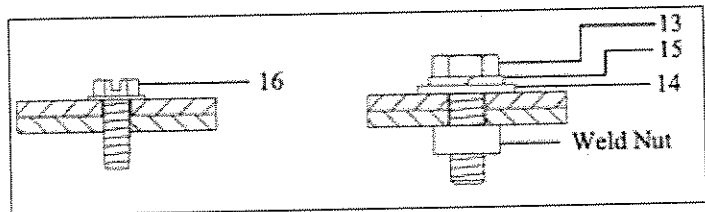

Figure 11. Assembly Hardware.
- Using the 0.25" cap screws and washers (see Figure 11), loosely fasten a wide vertical panel (1) to the rear of the switchgear roof at the left end of the switchgear lineup. Two loose screws in each end of the lower flange are sufficient to hold the part in place temporarily. This is necessary to allow mating parts to adjust while securing one part to another.
- Using the 0.25" cap screws and washers, loosely fasten one narrow vertical panel (2) to the left rear corner of the switchgear roof.
- Using the 0.25" self-tapping screws (see Figure 11) fasten the narrow vertical panel (2) to the wide vertical panel (1) along the vertical flanges.